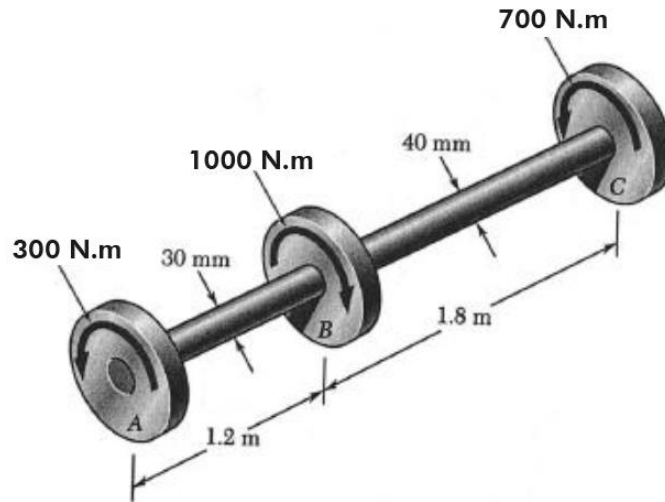

Figure Q2 (a)
- (a) The torques shown are exerted on pulleys A, B and C, as shown in Figure Q2(a). Given that both shafts are solid and made of brass with $G = 40 \text{ GPa}$. Determine the angle of twist in degree between (i) A and B, and (ii) A and C.